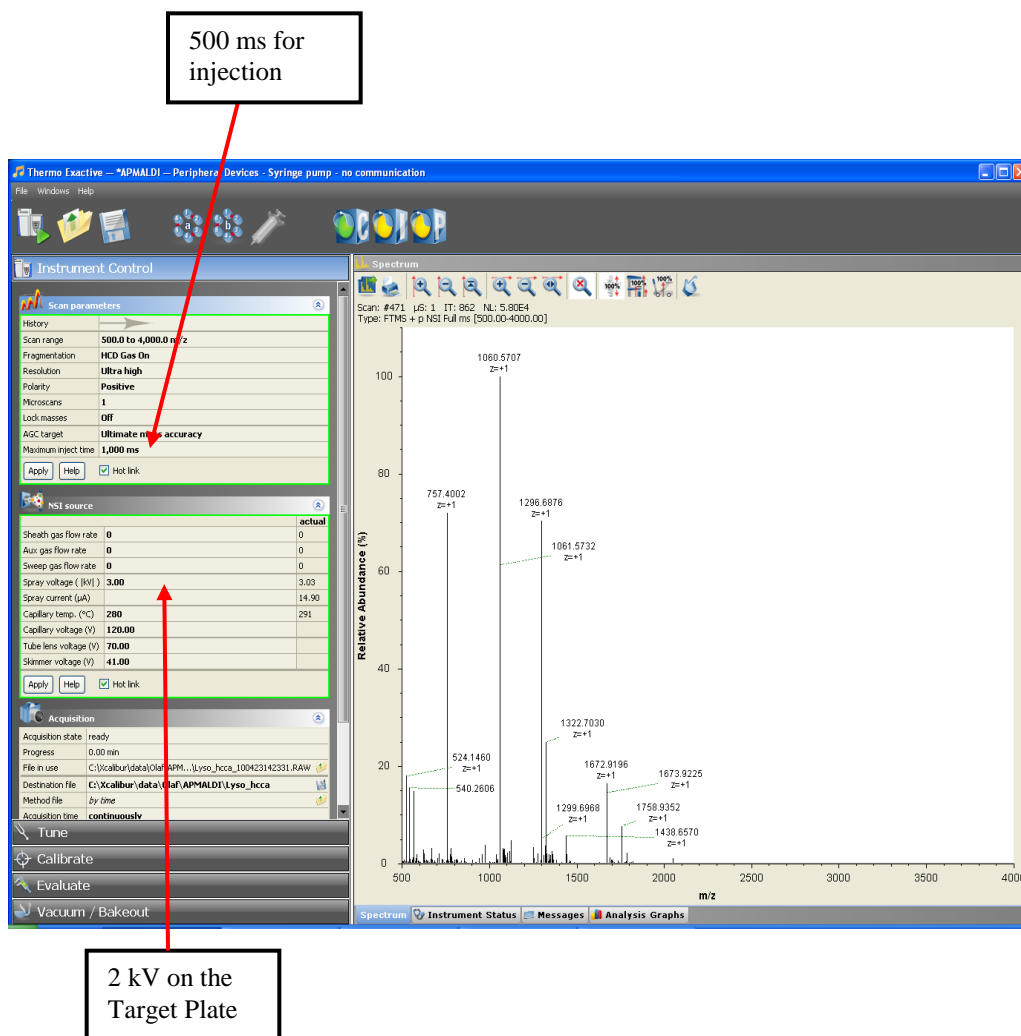

Figure 7.20 Good Parameters for the Capillary HV (2000 V) and Injection (Accumulation) Time (500 ms)
- Typical parameters that represent a good starting points for the AP/MALDI measurements are shown in Figure 7.20.
- Fig. 7.20 represents a screen copy made during an AP/MALDI spectrum measurement of CHCA matrix. The user can easily switch between the *XCalibur* and *TARGET* Programs to operate both the MS and AP/MALDI source from the same computer. An alternative method for the user is to run the program on separate computers.